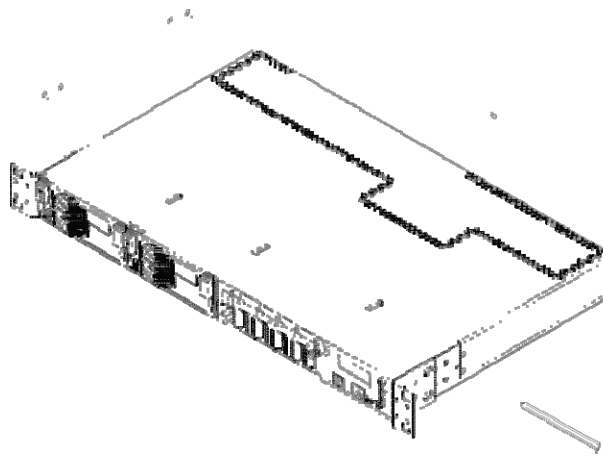

Figure 7-5 Top Cover Removal
1. Remove the top cover by loosening 4 screws on each side of the system and one screw at the rear, see Figure 7-5.